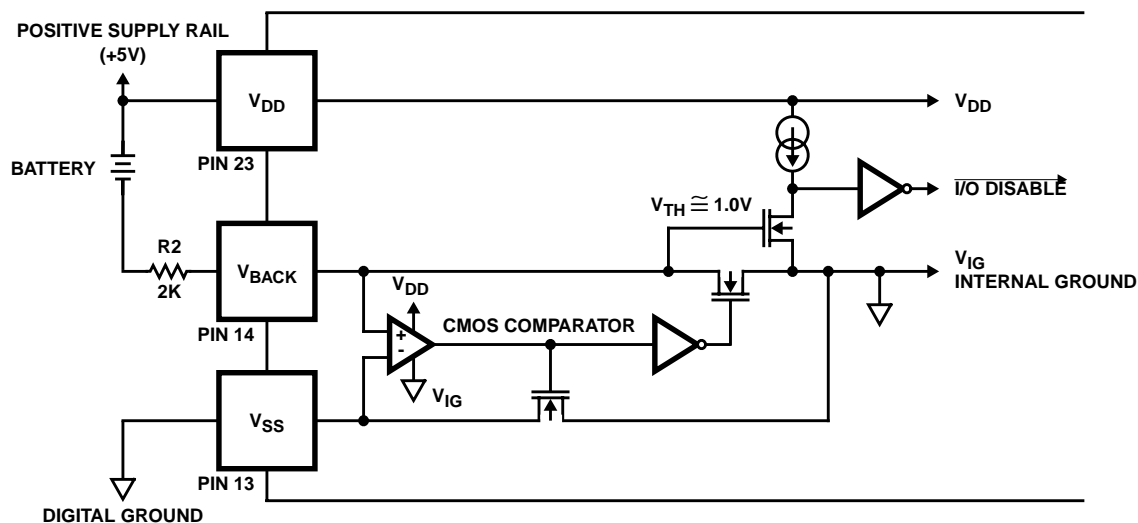

FIGURE 6. SIMPLIFIED ICM7170 BATTERY BACKUP CIRCUIT
The ICM7170 contains an on-chip power down detector that eliminates the need for external components to support the battery-backup switchover function, as shown in Figure 6. Whenever the voltage from the V_{SS} pin to the V_{BACKUP} pin is less than approximately 1.0V (the V_{TH} of the N-channel MOSFET), the data bus I/O buffers in the ICM7170 are automatically disabled and the chip cannot be read or written to. This prevents random data from the microprocessor being written to the clock registers as the power supply is going down.
The new load configuration (Figure 6) allows these two conditions to be met independently. The two load capacitors, C1 and C2, provide a fixed load to the oscillator and crystal. C3 adjusts the frequency that the circuit resonates at by reducing the effective value of the crystal's motional capacitance, C0. This minute adjustment does not appreciably change the load of the overall system, therefore, stability is no longer affected by tuning. Typical values for these capacitors are shown in Table 5. C1 and C2 must always be greater than twice the crystal's recommended load capacitance in order for C3 to be able to trim the frequency. Some experimentation may be necessary to determine the ideal values of C1 and C2 for a particular crystal.
4. EXTERNAL BATTERY BACKUP - The ICM7170 may be placed on the same power supply as battery-backed up RAM by keeping the ICM7170 in its operational state and having an external circuit switch between system and backup power for the ICM7170 and the RAM. In this case V_{BACKUP} should be pulled up to V_{DD} through a 2K resistor. Although the ICM7170 is always "on" in this configuration, its current consumption will typically be less than a microamp greater than that of standby operation at the same supply voltage (See Note 9). Proper consideration must be given to disabling the ICM7170s and the RAMs I/O before system power is removed. This is important because many microprocessors can generate spurious write signals when their supply falls below their specified operating voltage limits. NANDing \overline{CS} (or \overline{WR}) with a POWERGOOD signal will create a \overline{CS} (or \overline{WR}) that is only valid when system power is within specifications. The POWERGOOD signal should be generated by an accurate supply monitor such as the ICL7665 under/over voltage detector. An alternate method of disabling the ICM7170's I/O is to pull V_{BACKUP} down to under a volt above V_{SS} ($V_{SS} < V_{BACKUP} < 1.0V$). This will cause the ICM7170 to internally disable all I/O. Do not allow V_{BACKUP} to equal V_{SS} , since this could cause oscillation of the battery backup comparator (See Figure 6). $V_{BACKUP} = V_{SS} + 0.5V$ will disable the I/O and provide enough overdrive for the comparator.